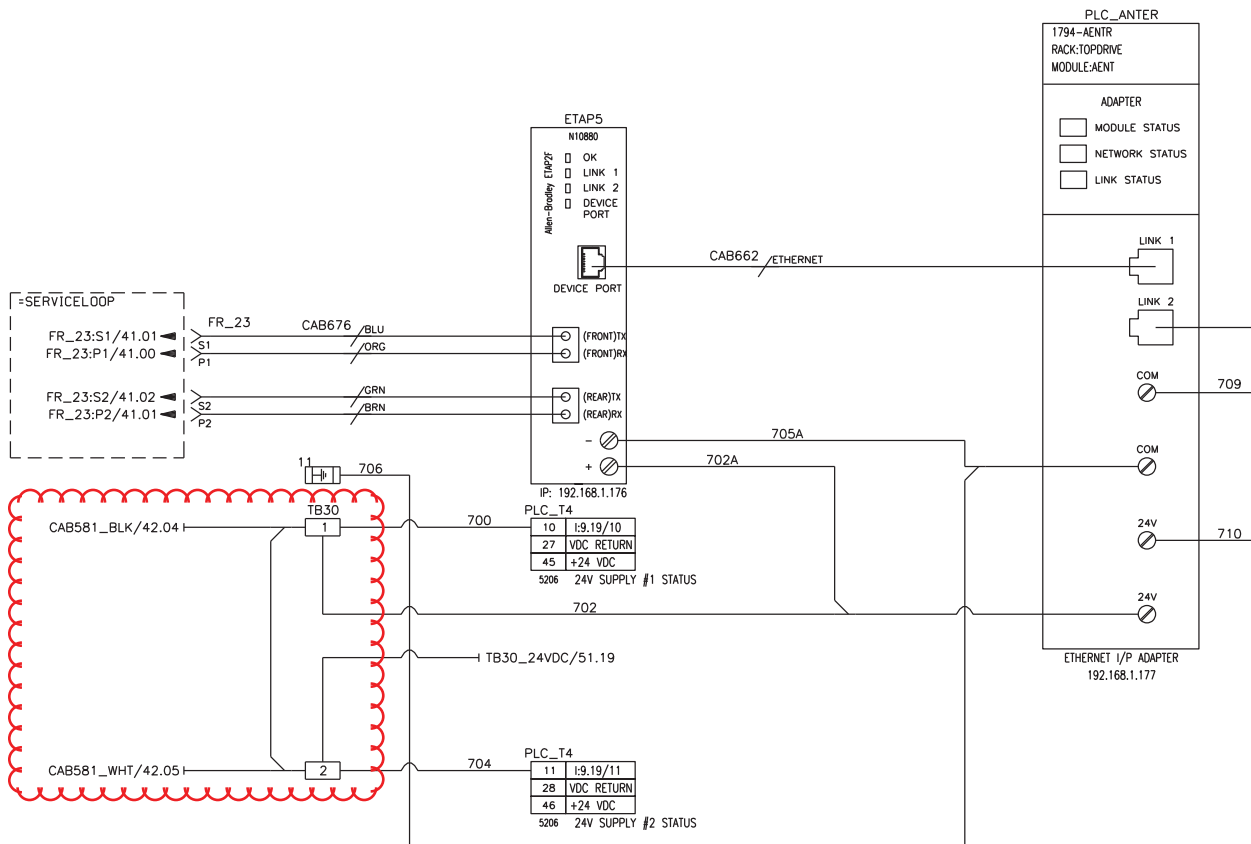

Figure 3: TD PLC J-Box
1. Add a jumper wire between TB30:1 and TB30:2 as shown on Figure 3.